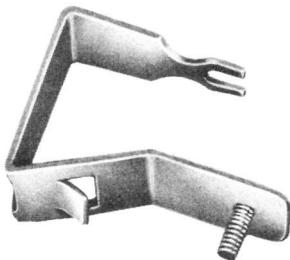

Fig. 23—72A Bracket
- 72A bracket (Fig. 23)—use with 123A1A protectors for indoor location